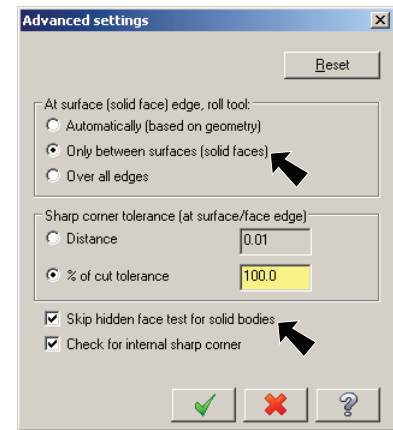

Fig. 35
Step 28. Select **Only between surfaces**, Fig. 35.
Step 29. Check **Skip hidden face test for solid bodies** and click OK , Fig. 35.